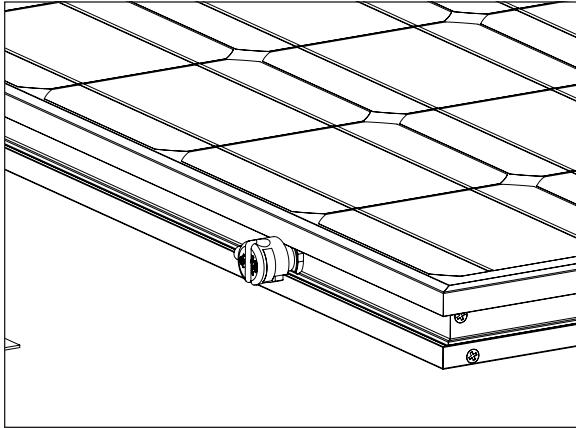
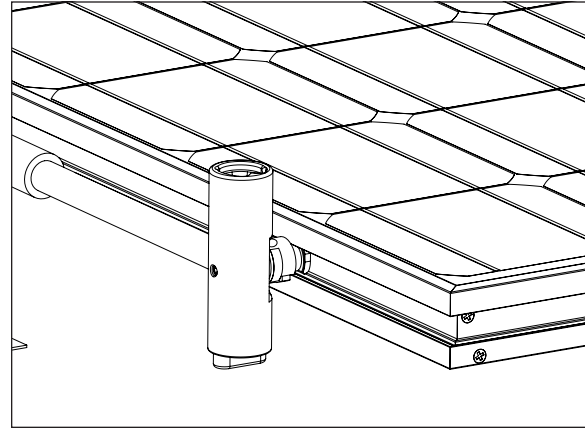
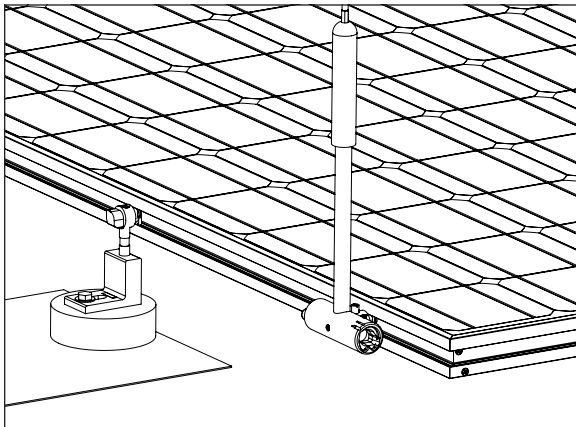

Figure 6.2A
Figure 6.2B
Figure 6.2C
3. To install the Ground Zep, insert the Ground Zep Key into the Module groove in its horizontal position (Figure 6.2A). Then insert the Ground Zep Socket portion of the Zep Tool into the Ground Wire Retention Slot of the Ground Zep (Figure 6.2B) and turn the Ground Zep 90 degrees clockwise to lock it into the groove (Figure 6.2C). This will establish a solid ground bond with the Module frame. After the Ground Zep is turned 90 degrees, the Ground Wire Set Screw should be pointing up.